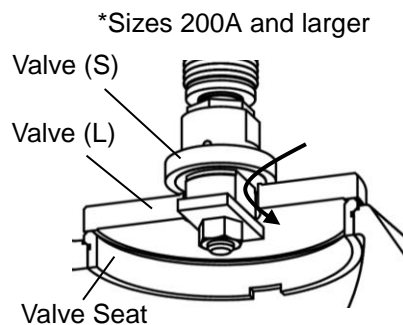

Figure 2
- (1) When using the product with its valve fully open, turn the handle counterclockwise by 45 degrees from the fully open position to prevent the valve from being stuck.
- (2) Be sure to open/close the valve by applying torque within the limit specified in "the valve User's Guide" published by the Japan Valve Manufacturers Association. Do not apply torque more than specified.
- (3) Do not try to turn the handle beyond its fully open/closed positions. Otherwise the valve may be damaged.
- (4) Sizes 200A and larger are equipped with Valve (S) to reduce the opening torque. When opening the valve, first rotate the Handle by approximately one full turn to open the the Valve (S) and allow the differential pressure between the inlet and outlet pressures to reduce before continuing to operate the Handle (See Figure 2).